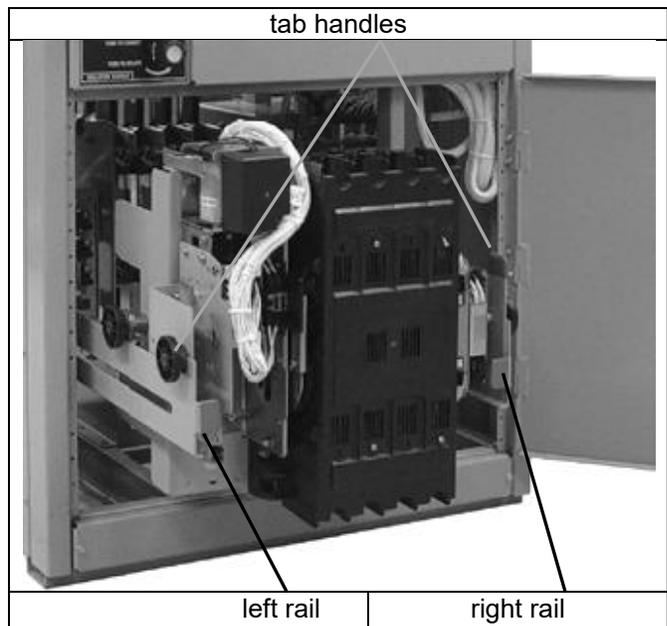

Figure 18 . Transfer switch isolated and pulled out for inspection.
4. Open the lower enclosure door. Pull out both left and right side rails then use the two tab handles to roll out the transfer switch. It can be safely inspected in this position. The transfer switch can also be removed for easier maintenance operations. See Figure 18.